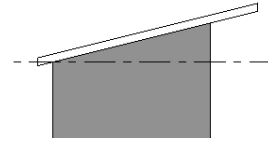

FIGURE 7-1.12 South elevation – shed roof (revised)
47. Switch to the South view to see the change (Figure 7-1.12).